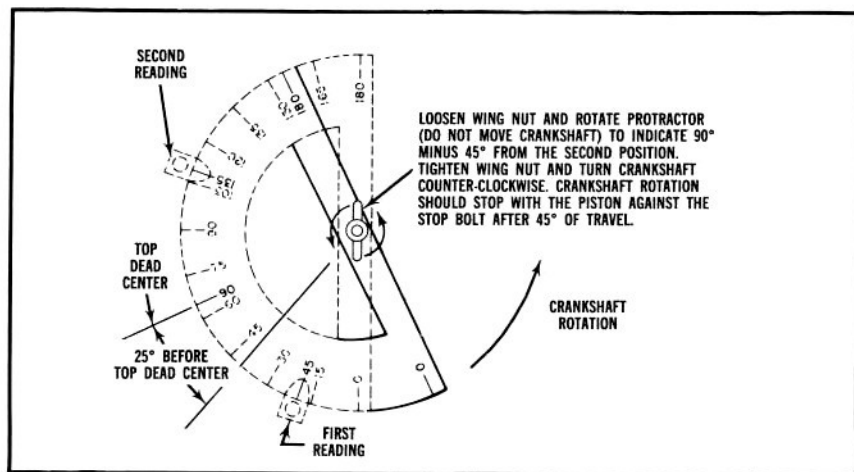

FIGURE 14
10. To make the 90 degree point on the protractor wheel top dead center, loosen the wing nut (piston is still against the stop) and move the protractor from the second degree reading to the 45 degree point on the protractor. Re-tighten the wing nut. Re-check for 90 degree top dead center by rotating the crankshaft counterclockwise to the stop. This reading should also be 45 degrees (Figure 14).